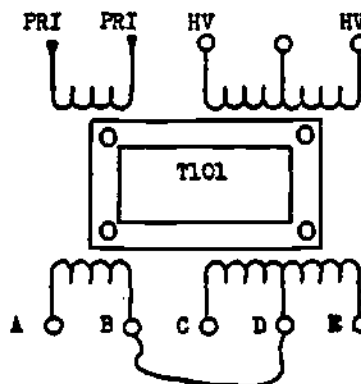

Figure 4-1
3. Connect a hookup wire from terminal B to terminal D. See figure 4-1.